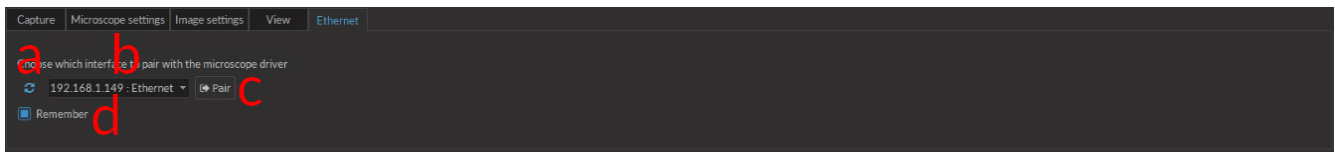

Figure 3.25: Microscope Ethernet Tab
- a) The **Refresh** button (Fig. 3.25) will identify any accessible IP addresses and add them to the drop-down list.
- b) The **Ethernet** drop-down list (Fig. 3.25) includes all IP addresses connected to an ethernet adapter. The proper one must be selected to properly connect the microscope.
- c) The **Pair** button (Fig. 3.25) connects the software to the driver.
- d) The **Remember** checkbox (Fig. 3.25) will keep the chosen IP address so that the chosen microscope driver will be connected automatically next time the software is opened.